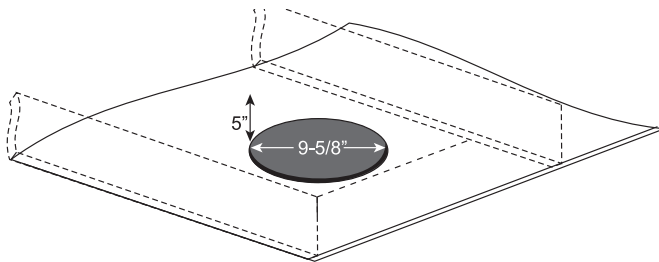

Figure 1.1- CS200 requires a 9 5/8 inch (24.4475 cm) hole with a depth of at least 5 inches (12.7cm).
2. For dry wall installation, use a drywall knife or saw to cut a hole (see figure 1.1 on page 4). The hole should be 9-5/8 inches (24.4475 cm) in diameter. The full diameter of the CS200 is 11 inches (27.94cm) For new construction, the RK200 rough-in bracket is recommended. The RK200 is available from your McIntosh Dealer.